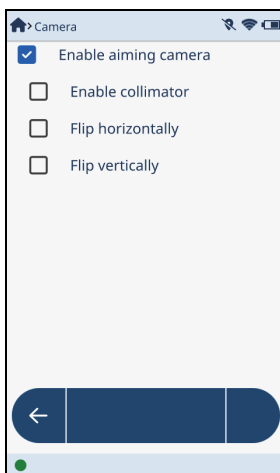

Figure 4-28 Camera screen
1. Tap the **Camera** button () to open the **Camera** screen (see Figure 4-28 on page 140).